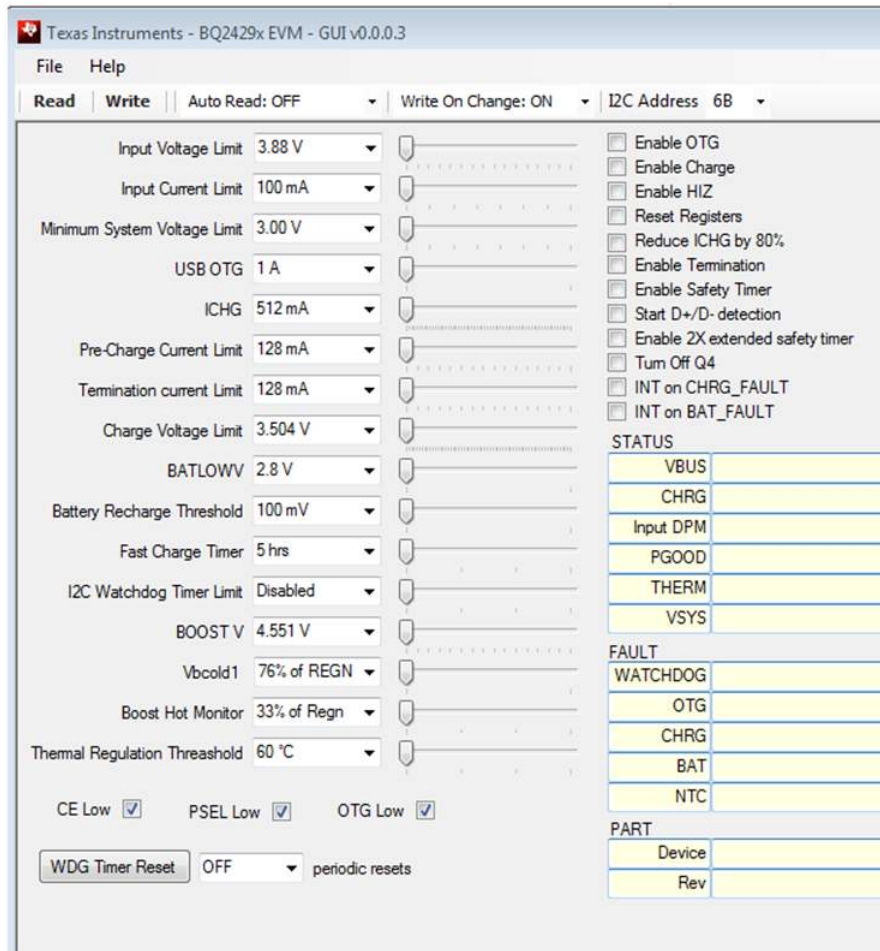

Figure 3. Main Window of the bq2429x Evaluation Software
- Turn on the computer. Launch the bq2429x evaluation software. The main window of the bq2429x software is shown in Figure 3.